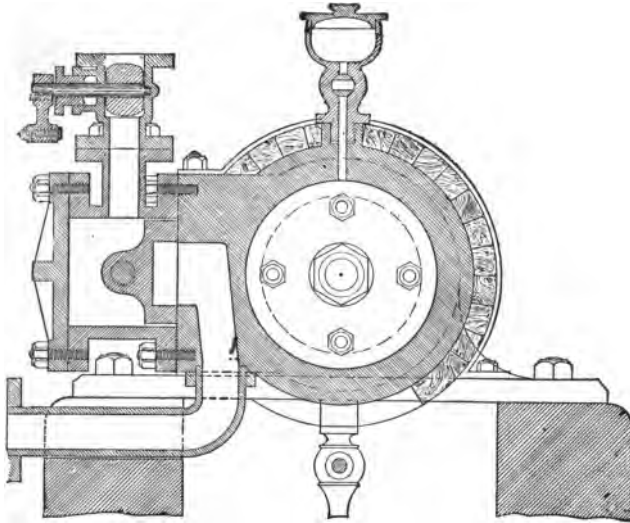

FIG. 79.—Transverse Section of Cylinder.
**T**HE heavy work of this engine having been disposed of in the last chapter, the smaller parts can now be proceeded with. A transverse section of the complete cylinder is shown at Fig. 79.
The exhaust-port is carried through to under-side of cylinder, where it is connected to exhaust-pipe by a short length of  $\frac{3}{8}$ -in. copper tubing, with flanges on each end, and bent, as shown in transverse section of cylinder, see Fig. 79. To bend the tube, fill with lead, when it can be easily bent to the required curve, after which the lead can be melted out. The flange on end of pipe next to cylinder is elliptical, its greatest diameter being  $\frac{7}{8}$  in., and its least  $\frac{5}{8}$  in., the greatest diameter being parallel with cylinder. The pipe is fastened to cylinder by two  $\frac{1}{2}$ -in. studs and nuts, which pass through wide part of flange. The flanges can be made separately, and either brazed or silver-soldered on ends of tube, the one on cylinder end being set back  $\frac{3}{8}$  in. from end of tube, so as to allow a leather or rubber washer to be inserted between the flange and the cylinder. The flange on outer end of tube is  $1\frac{1}{8}$  in. in diameter, and has four  $\frac{1}{8}$ -in. studs in it (see Fig. 79). Both flanges are  $\frac{1}{2}$  in. thick. The steam pipe has also four  $\frac{1}{8}$ -in. studs, as shown.
$\frac{1}{8}$  in. from end of hole in order to allow plug to come further through in tightening up. The steam-way in the casting is to be bored next, and the ends next the plug are to be widened lengthways of plug, as shown on detail, in order to give a full passage to the steam. The broach is then put into hole for plug to clear away all burr. The plug is to be turned to the size shown, and carefully ground into its place; but before it is quite finished the steam-way must be drilled through it, and filed out to the length and width shown on sectional drawings of cylinder (Fig. 79). The plug can now be finally ground in till it is within  $\frac{1}{8}$  in. of the end of hole, this space being left for future regrinding. The projecting end of plug should be parallel from end of shell to its end, so as to offer no impediment to its being ground in further. The grinding must be done very carefully, care being taken not to press more on one side than on another. Two studs and nuts,  $\frac{3}{8}$  in. diameter, are required to hold the plug-gland on its place. The hand wheel is fixed with a nut on a square.
size as the chamber, and so would fit it perfectly steam-tight. The pieces it is turned on can then be cut off. The lever on end of spindle is to be in the position shown on elevation (Fig. 72) when the valve is open. This lever is iron, and the spindle—which is steel—is reduced near its end to a square to take the valve, and then further reduced at end of square to a round, so as to form an inner bearing inside valve-chamber, as shown on section. The lever is fixed on end of spindle by a small set screw. The spindle is made steam-tight in the stuffing-box by having a cord formed of two or three strands of lamp cotton twisted round it, and then forced tightly down into stuffing-box by the gland. The construction of this part is shown on sectional drawing of cylinder (Fig. 79). The steam-pipe, stop-cock, and throttle-valve are bolted to each other and to the cylinder by four  $\frac{1}{8}$  in. studs and nuts in each, as shown. The throttle-valve and stop-cock are gun-metal, and the steam pipe, which is  $\frac{1}{2}$  in. external diameter, is copper, as are also the exhaust and pump pipes. This completes the governor.